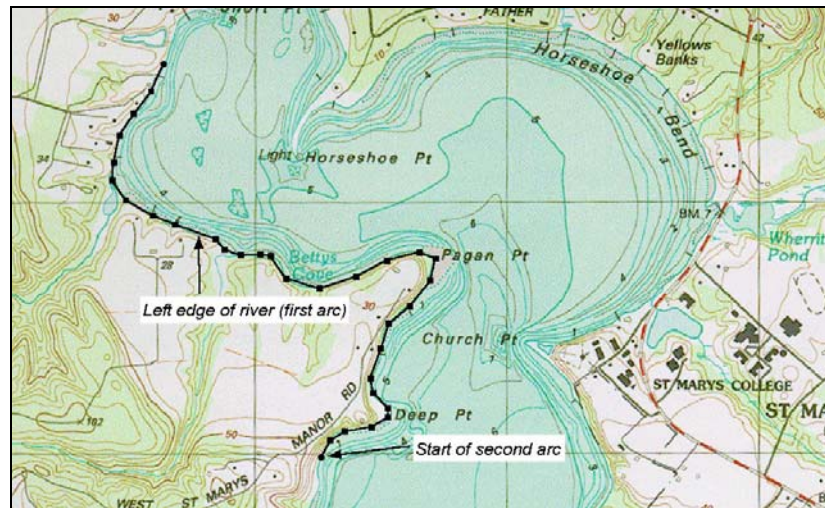

Figure 2-3 Creation of the first feature arc.
2. Click out the left riverbank, as shown in Figure 2-3. As you create the arc, if you make a mistake and wish to back up, press the *BACKSPACE* key. If you wish to abort the arc and start over, press the *ESC* key. Double-click the last point to end the arc.